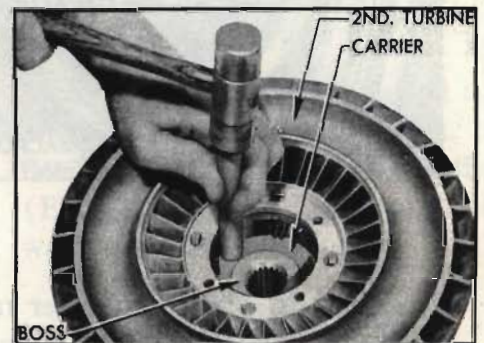

Fig. 31. Removing carrier from turbine
6. When necessary to replace the second turbine or the carrier, use extreme care when separating them so as to protect the usable part. Support second turbine and tap carrier free using a soft punch. Do not drive against surface of thrust boss in carrier (Fig. 31).